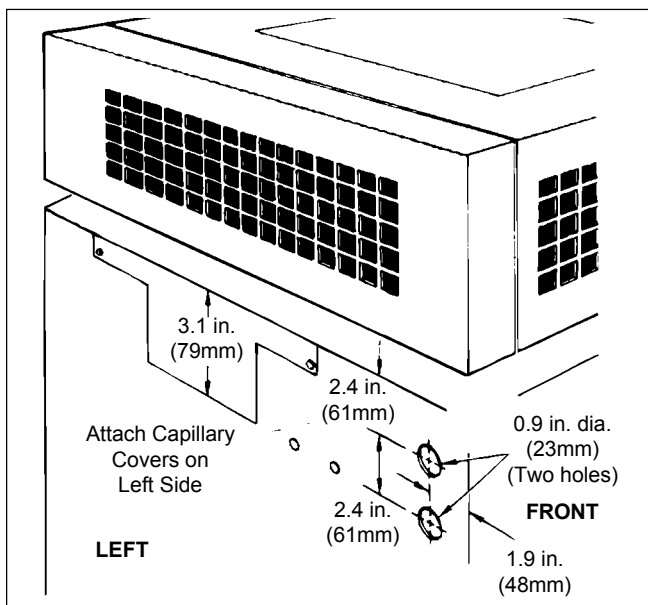

Figure 20. Hole Location, Left Side.
16. Use a chassis punch to put two  $\frac{7}{8}$  inch (22mm) holes in the front left side of the jacket (see Figure 20).